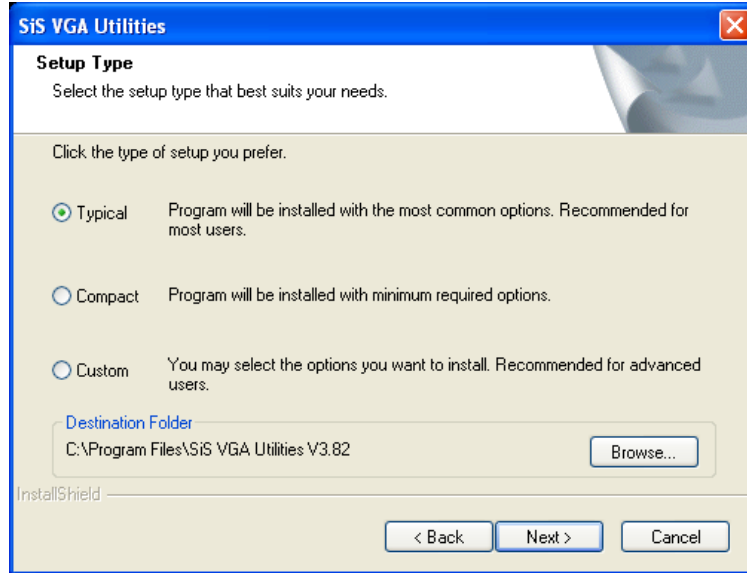

Figure 7-13: VGA Driver Installation Options
Step 9: The screen in **Figure 7-13** appears.
Step 10: Select the type of installation from the options shown in the screen in **Figure 7-13**